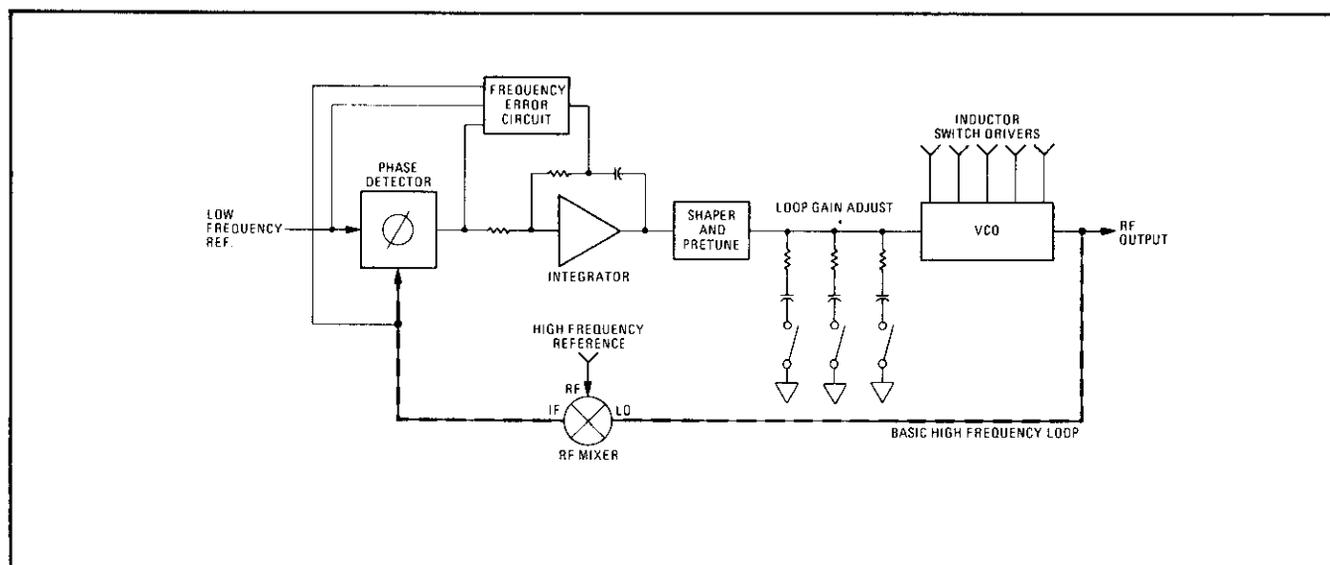

Figure 8-203. Basic High Frequency Loop
The High Frequency Section generates the basic (fundamental) band which is sent to the Output section (Service Sheet BD6). This section employs two phase lock loops to generate the basic band. The 320 to 640 MHz and 10/20 MHz signals from the Reference Section are first mixed in the Reference Sum Loop to produce a 310 to 620 MHz, 10 MHz step resolution signal. This signal is then mixed in the Output Sum Loop with the 10 or 20 MHz, 0.1 Hz step resolution, signal from the Low Frequency Loops Section to produce the 320 MHz to 640 MHz, 0.1 Hz step resolution, basic band signal at the A8A1J3 output. Figure 8-203 is a block diagram of the basic high frequency loop. The only difference between the Reference Sum (RS) Loop and the Output Sum (OS) Loop is that, in the case of the RS Loop, the VCO output frequency is always less than the high frequency reference input at the mixer, whereas the opposite is true for the OS Loop. Coarse tuning and speedup is regulated by the Controller Board (Service Sheet 5) in the High Frequency Loops Section.